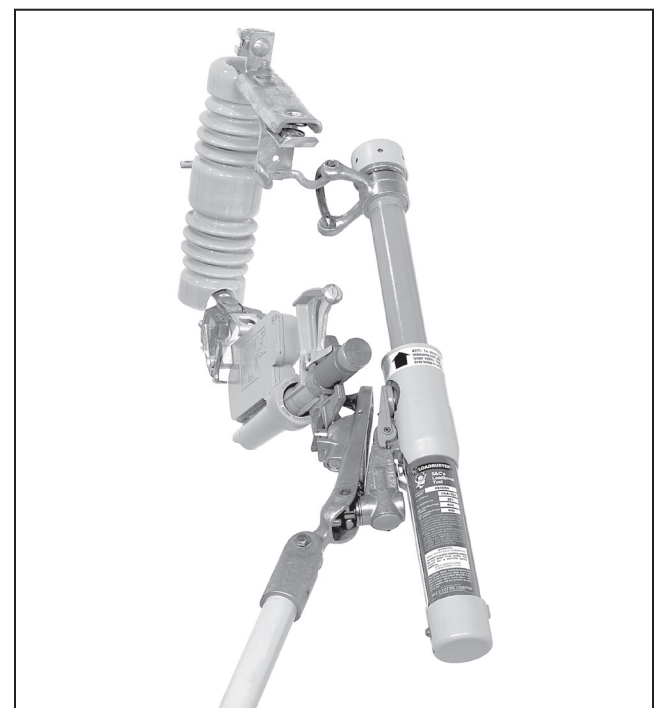

Figure 10. A Loadbuster tool in the Tripped position.
- STEP 4.** *To open the circuit:* Operate the Loadbuster tool with a firm, steady pull until it is extended to its maximum length. See Figure 10. Avoid jerking and hesitation. The resetting latch will keep it open. Generally, there will be no indication of circuit interruption. The only sound will be that of the Loadbuster tool tripping.